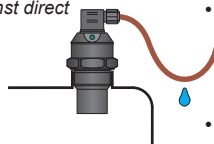

Fig. 15: Protection against penetration of moisture
- It is advisable to keep cable under the **cable gland** (sagging down) as shown in Fig. 15 to prevent penetration of moisture. Rain and condensing water can be therefore drained away freely.